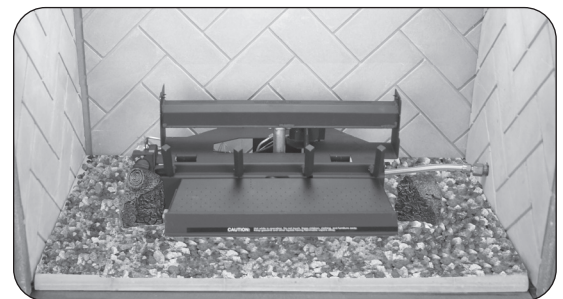

Fig. 19-2 Place lava granules
1. Spread the supplied lava granules on the floor of the fireplace; around the front and sides of the burner system (see Fig. 19-2). The lava granules may be placed around the remote receiver (as applicable). Leave the front of the receiver clear for control access.